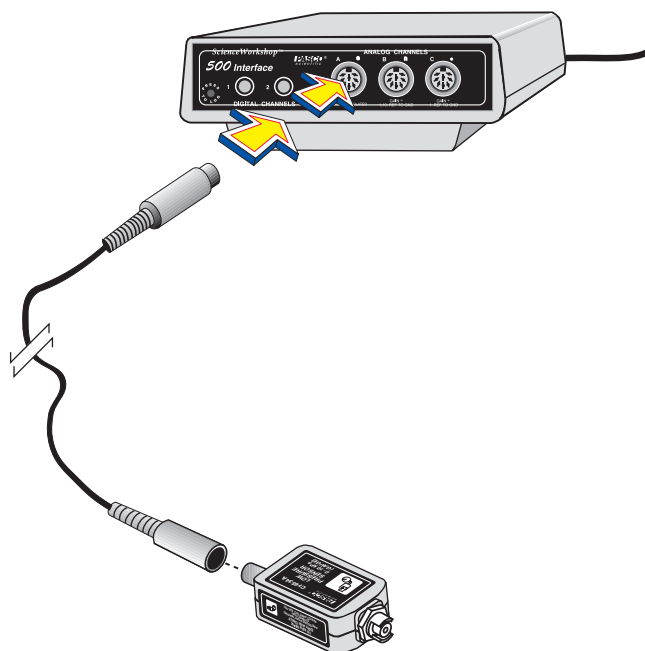

Figure 2
1. Connect the Pressure Sensor unit to analog channel A, B, or C of the *Science Workshop* computer interface box using the cable with the DIN connectors (Figure 2). Alternatively, the unit can be plugged directly into the analog channel jack.